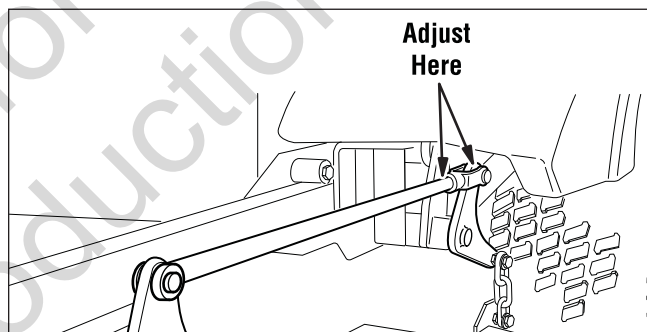

Figure 35. Adjust Lift Rod Timing
7. See Figure 35. To adjust the lift rod, loosen the jam nut on the clevis then remove the 1/2" clevis pin fastening the clevis to the lift pivot arm. Turn the clevis clockwise to shorten the distance between the rod pivots. Reinstall the clevis on the lift pivot arm and secure with the 1/2" clevis pin previously removed. Tighten the jam nut against the clevis.